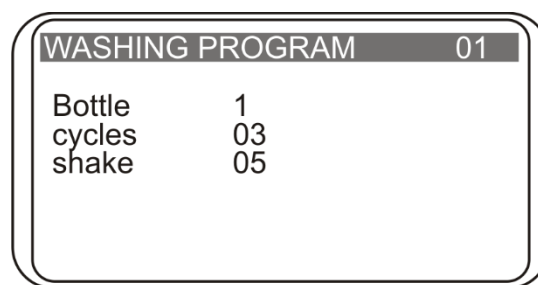

Fig. 6. Display during operation
- 4.15. During operation, display shows program number, currently used bottle number and the number of cycles left (fig. 6). If the current action has time tracking (soaking or shaking), then the elapsed time is displayed.